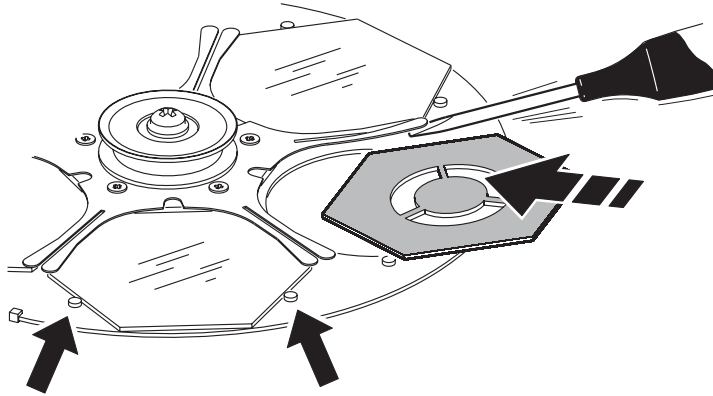

Figure 5
7. See Figure 5. To install a beam effect gobo, remove a color filter from color wheel 2 by pressing it gently away from its retaining tabs and lifting it carefully out of the color wheel. Install beam effect gobos as follows:
- See Figure 5. Install the gobos by gently levering up the retaining clips in the color wheel and sliding them into place until they locate securely. **Important!** Make sure that the *black side will face the front lens* and the *shiny side will face the lamp* when the module is reinstalled. Store the original color filters safely for possible future re-use.